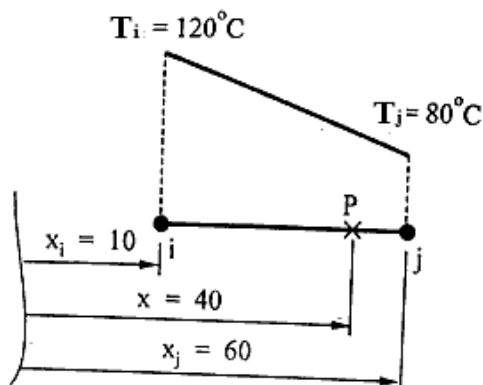

Figure 1
- (b) Determine the temperature at $x = 40$ mm (Figure 1), if the temperature at nodes $T_i = 120^\circ\text{C}$, $T_j = 80^\circ\text{C}$ and $x_i = 10$ mm and $x_j = 60$ mm. Consider linear shape function. 04